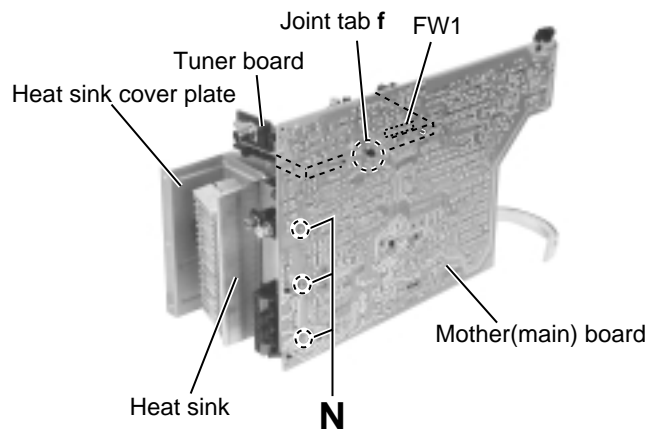

Fig.18
(See Fig. 18 to 20)
1. Release the joint tab **f** of the tuner board holder and the mother(main) board, and disconnect connector **FW1** connected to the mother(main) board. Remove the tuner board assembly (Refer to Fig.18).